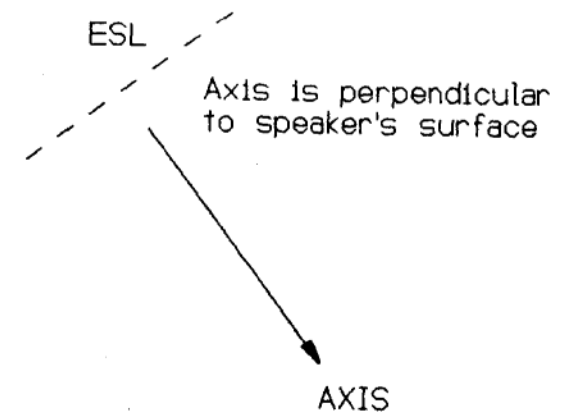

FIGURE 6-7: Axis of planar speaker is perpendicular to speaker's surface.
**PLANAR ESLs.** They exist on one plane (i.e., they are flat), and radiate sound perpendicularly to their diaphragm. This is called the axis of the speaker (Fig. 6-7).